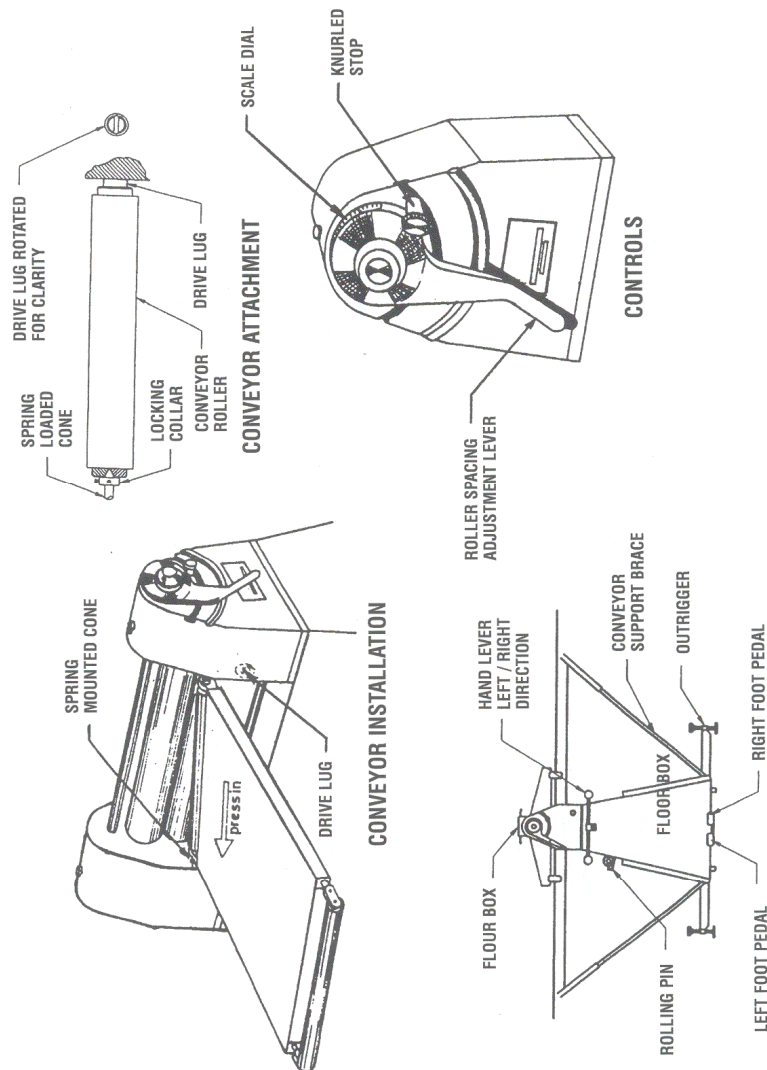

Figure 1. REVERSIBLE SHEETER NOMENCLATURE
NOTE: Refer to Figure 1 for Reversible Sheeter Nomenclature.
- b. Loosen locking collar set screws. Press the table back against the spring loaded conical bolt (see figure 1).